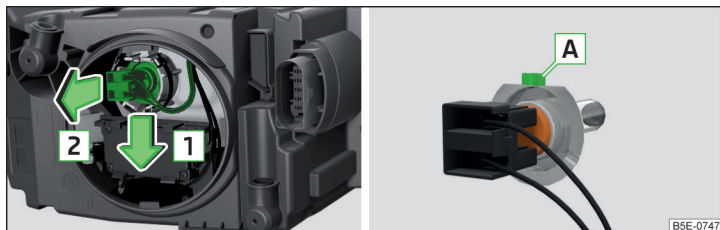

Fig. 356 Changing the bulb for the low beam
- › Disconnect the connector with the light bulb in the direction of arrow **1** » Fig. 356.